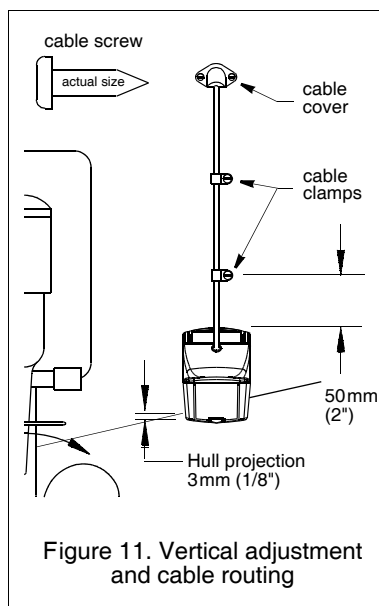

Figure 11. Vertical adjustment and cable routing
2. Check that the bottom left corner of the sensor projections 3mm (1/8") below the bottom of the hull (see Figure 11).
- b. Move the sensor deeper into the water in increments of 3mm (1/8") (see Figure 11).
1. If a hole must be drilled through the transom, choose a location **well above the waterline** (see Figure 11). Check for obstructions such as trim tabs, pumps, or wiring inside the hull. Mark the location with a pencil. Drill a hole using the appropriate size bit to accommodate the connector.